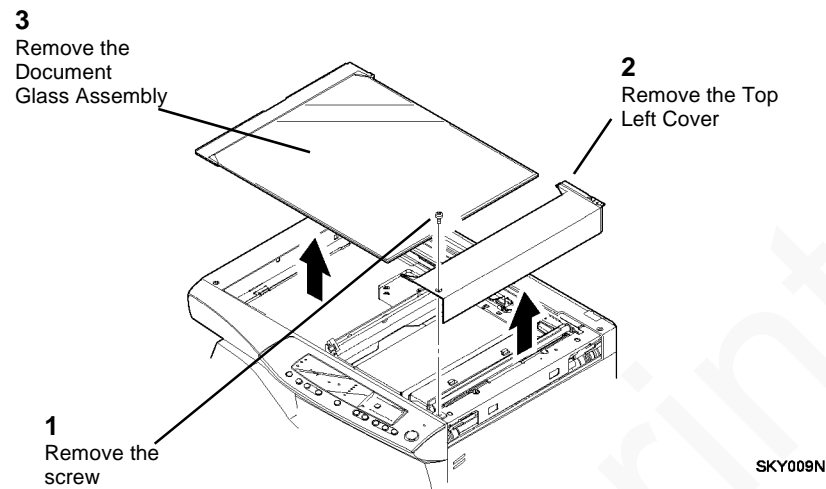

Figure 1 Removing the Document Glass Assembly
2. (Figure 1): Remove the Document Glass Assembly.